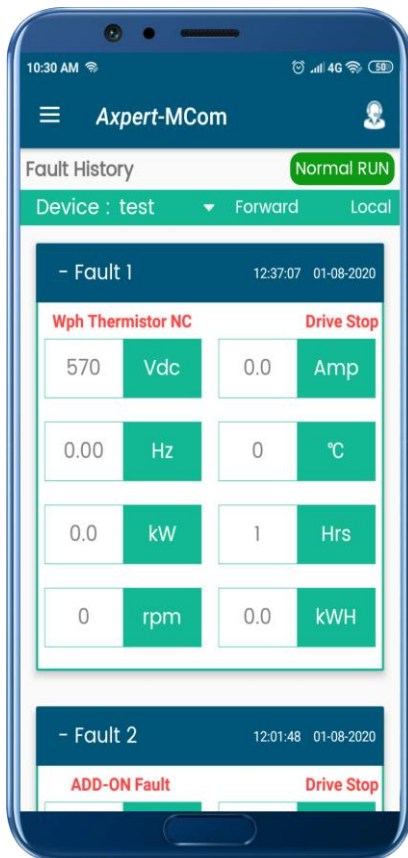

Figure 29: Fault history view
- The list of faults shall be displayed. User can view **fault history with 8 different parameters along with the time and date when the fault had occurred** (Figure 29).